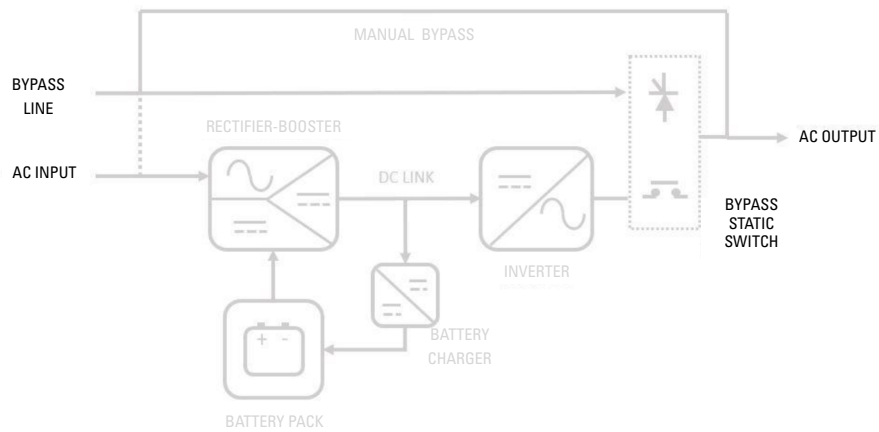

Fig. 13. Block diagram of UPS stopped, with no power flow, without powering the loads yet (typically in initial startup).
1. In a first start-up, normally the UPS will not supply any voltage (see *Fig. 13*). This situation can also be reached after an emergency stop (EPO), total shutdown of the UPS, and then re-power the UPS with the emergency stop disabled.